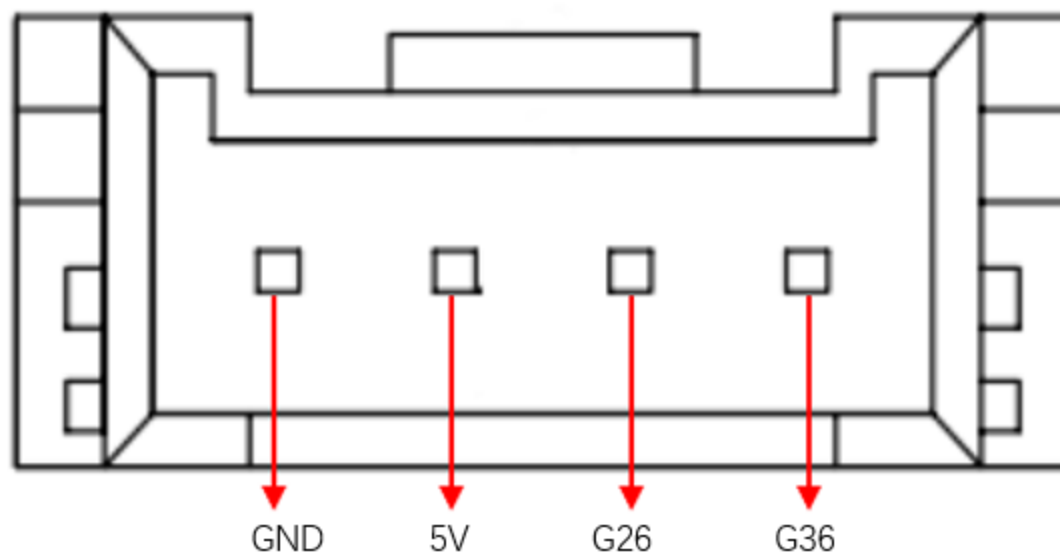
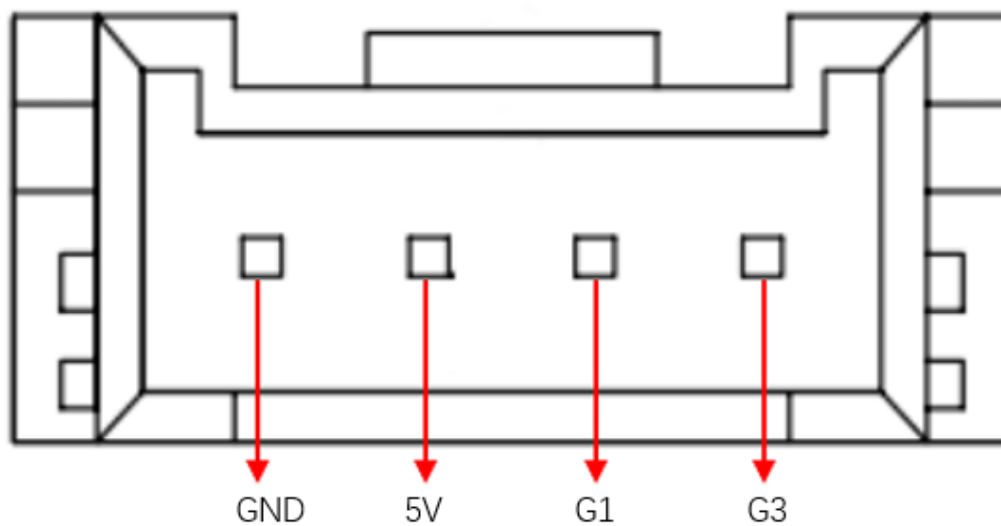
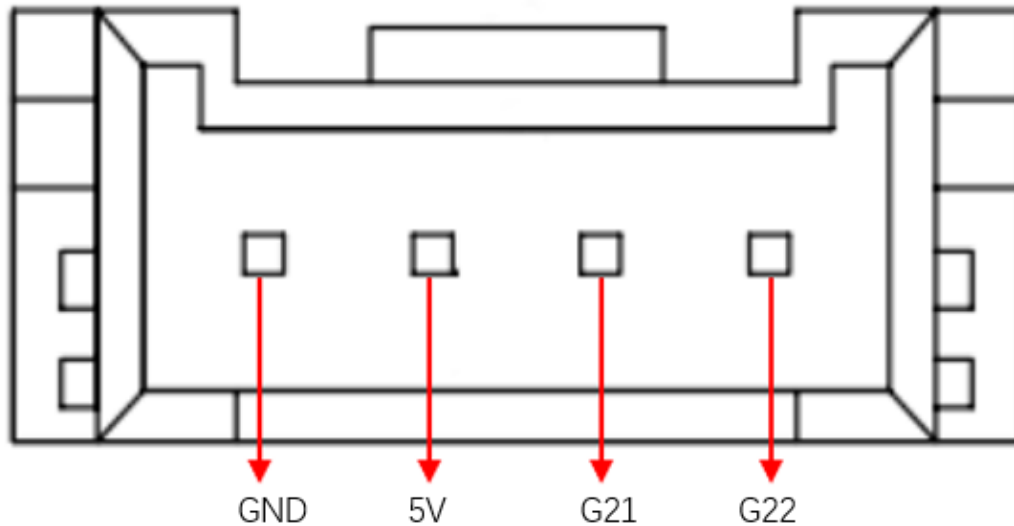

Figure 1-5 Grove interface 1
Figure 1-6 Grove interface 2
Figure 1-7 Grove interface 3
Description: Figure 1-5 shows other functions of the interface. If other functions are used, the I/O function is unavailable.
D. Grove interface: Figure 1-5, Figure 1-6, and Figure 1-7 show the Grove interface definitions